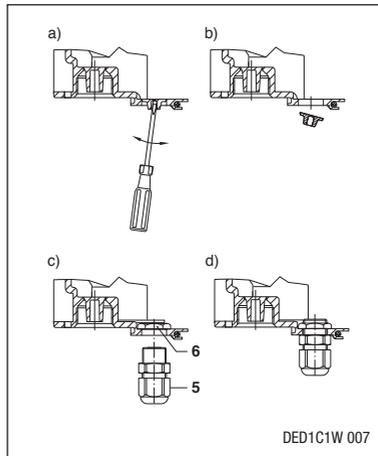

Figure 2: Front row
- Front row (Fig. 2): screwdriver DIN 5262-B, size 0 (ø 3.0 mm)